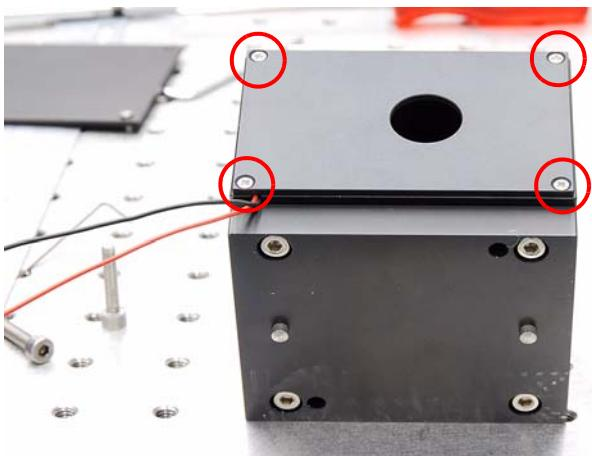

Figure 7.142 Alignment laser housing
7. Remove the side cover of the alignment laser housing after loosening the four fastening screws (Figure 7.142).